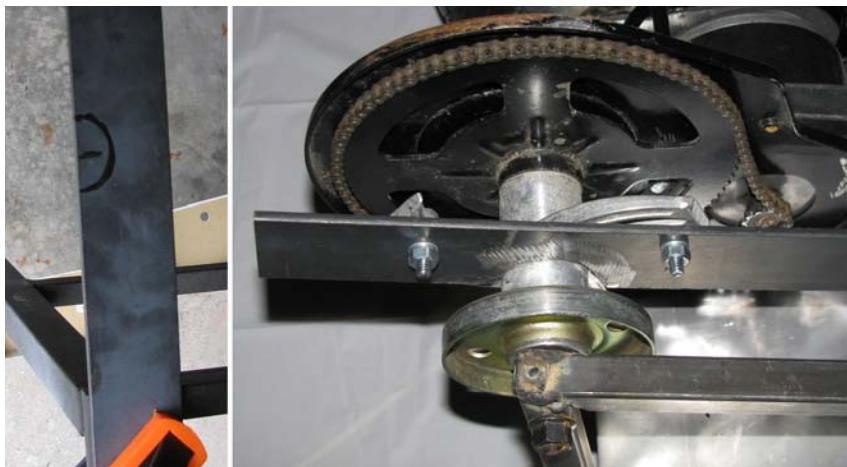

Figure 12-30. Modify the swinging arm to fit around the weapon axle (left, and the swinging-arm test fitted onto the weapon axle assembly (right).
Cutting a small semi-circle (about 1-inch radius from the edge) near the end of the swinging-arm allows it to contour to the weapon axle shaft. I used an angle-grinder wheel to cut out the area marked with permanent marker (see Figure 12-30).
6. Mount a steel flat bar arm to the weapon axle assembly. Place the flat bar onto the axle assembly, and mark the holes that you drilled through two of the wheel spokes (from step 1) onto the flat bar. You need to drill holes on these marks and use two bolts to secure the flat bar swing arm to the wheel spokes on the weapon axle (refer to Figure 12-30).